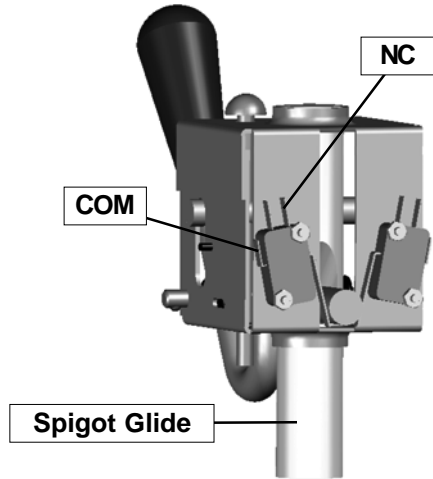

Figure 6-6 Spigot Cam Assembly (Center Spigot)
2. Remove the dispense rate adjuster knob located below the header panel. (Refer to Figure 6-6)